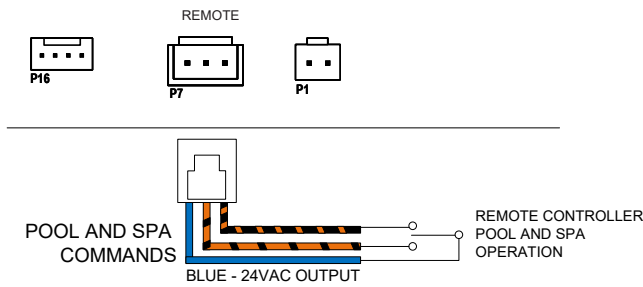

Figure 63. 3-Wire Remote Harness Installation
- On the 3-wire remote interface harness, connect the BLUE wire to one side of the remote automation controller and connect the ORANGE/BLACK wire for "SPA" operation and the BLACK/ORANGE wire for the "POOL" operation. See **Figure 63**.
- Install the 3-wire remote interface harness to the "P7" connector and turn power ON to the heater. See **Figure 63**.